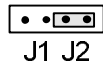

Fig.2 Input/output module jumper position J2
- The jumper on the input/output module must be plugged onto J2 (Fig. 2)